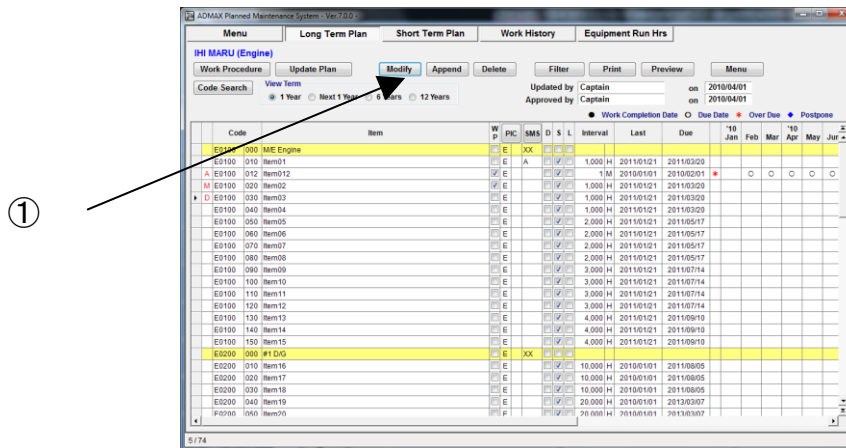

Fig.10-11 Original Plan Screen
1. On the “Original Plan screen” (Fig.10-11), select [Modify] button.